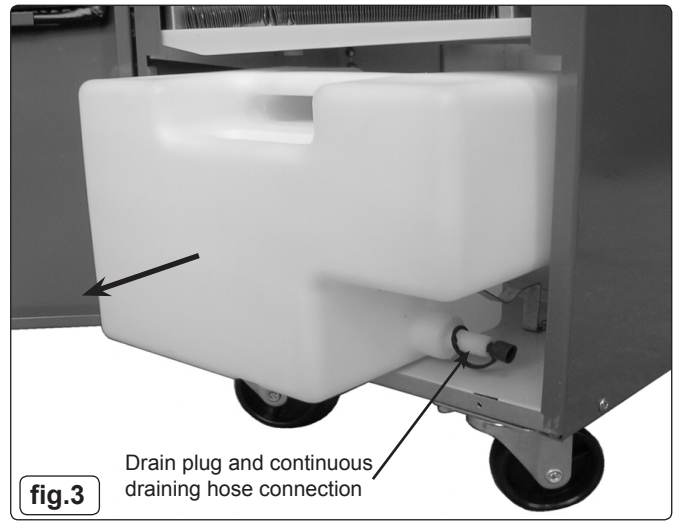

fig.3
- 3.3.1 Open the door and remove water collection tank from the dehumidifier by pulling it gently outwards by holding the sides of the tank (fig.3).
- 3.4.3 Remove the plug from the bottom right hand side of the tank (fig.3) and attach a suitable length hose. It should have an inner diameter of 5/8" and secure with a hose clip.